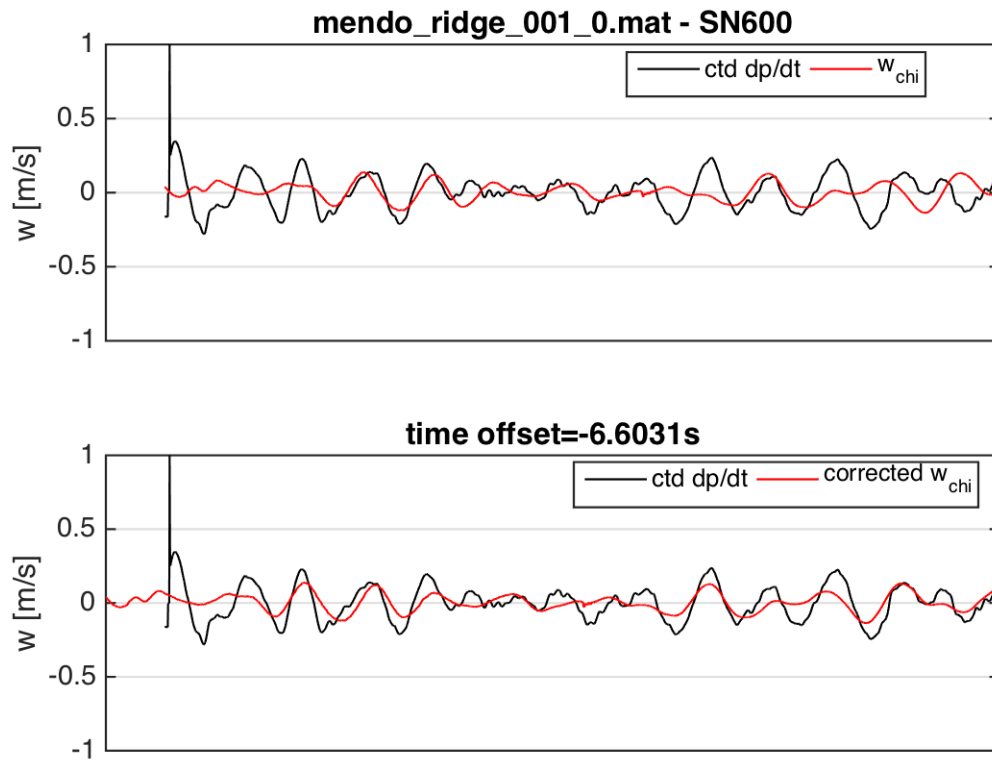

Figure 4: Zoom-in of dp/dt and chipod w allowing one to check if time-offset is correct. Bottom panel should match.
- cast_001_w_TimeOffset_Zoom (Figure 4)